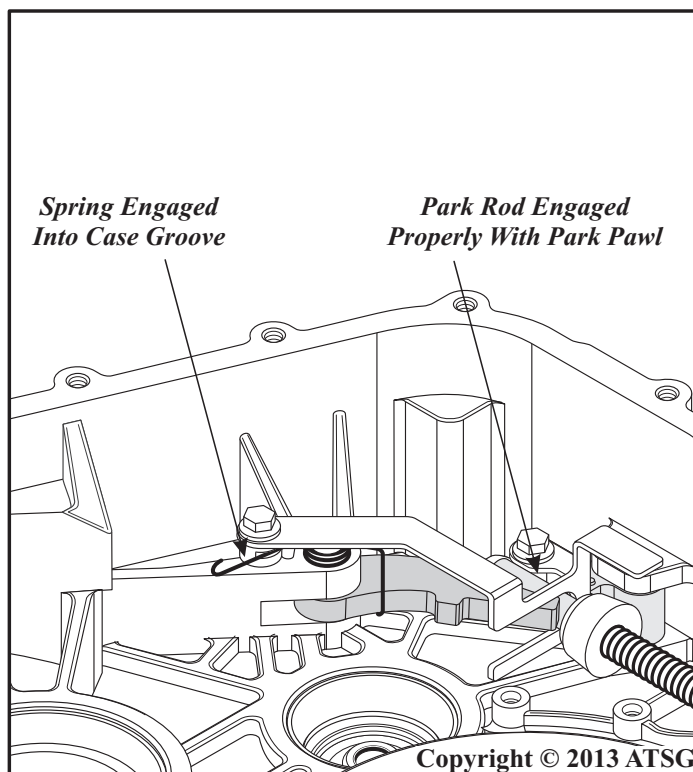

Figure 83
**Note:** Ensure that return spring is hooked on park pawl properly and engaged into the case groove, as shown in Figure 83.
**Note:** Ensure that park rod is engaged properly with park pawl, as shown in Figure 83.